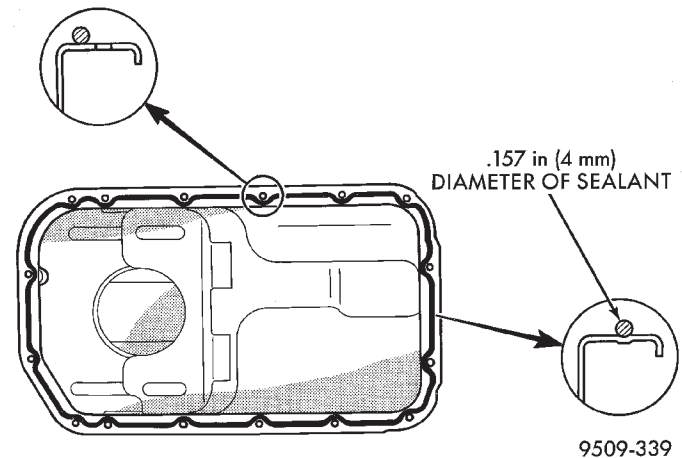

Fig. 73 Oil Pan Sealing
- (1) Apply sealant as shown in (Fig. 73).